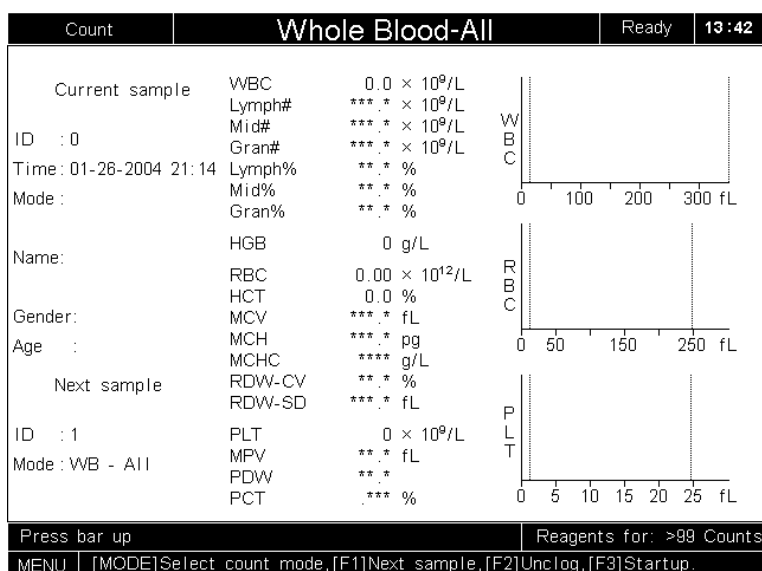

Figure 5-2 Count screen
2. Press [ENTER] to enter the Count screen, as Figure 5-2 shows.